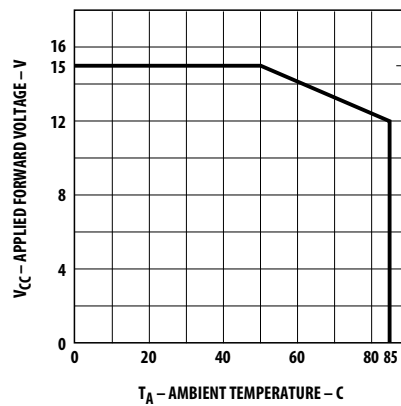

Figure 4. Maximum allowed applied forward voltage vs. ambient temperature $R\theta_{JA} = 175^\circ\text{C/W}$. 12 volt devices.
3. Derate from T_A = 50°C at 0.086 V/°C, see Figure 4.